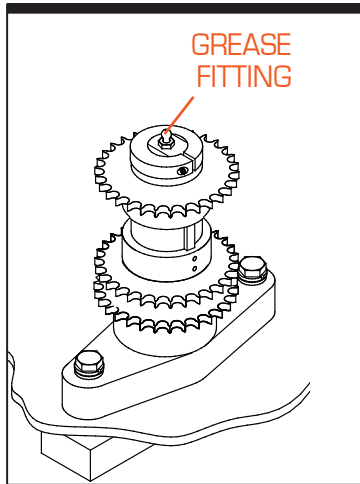
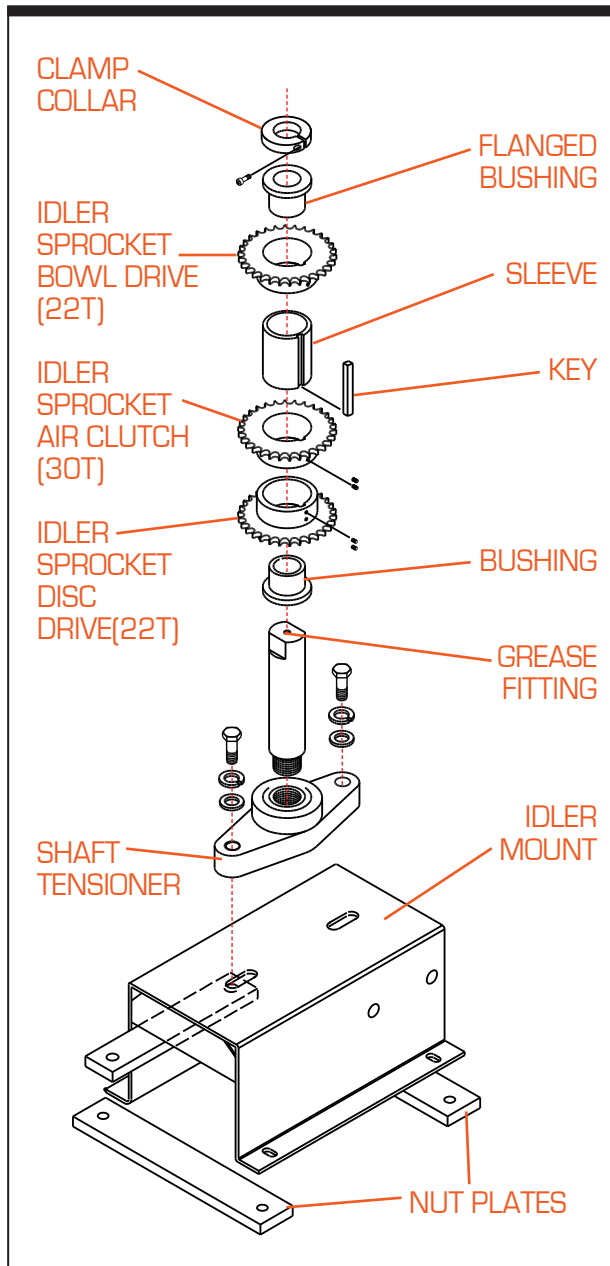

Figure 4-2. Assembled Idler
Figure 5-4. FS-40/50 Idler Assembly - Exploded View
It is recommended that you grease the idler assembly (see Figure 4-2), for both metric and ANSI models, every six (6) months after installation. If you must disassemble the idler, please note the order of assembly in Figure 5-4, Chapter 5.